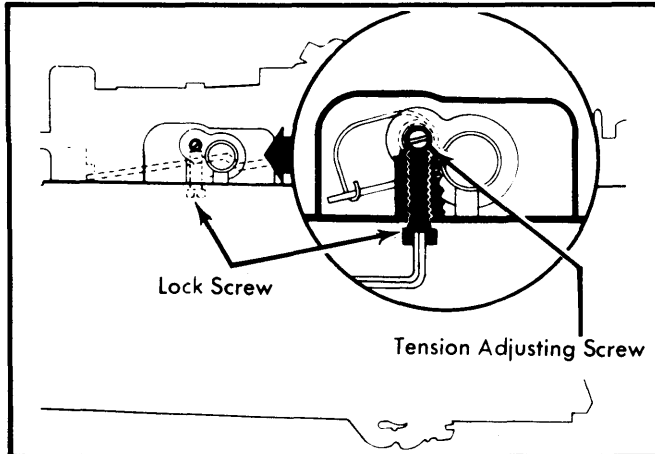

Fig. 9 Adjusting Air Valve Spring
2) Turn tension adjusting screw clockwise until air valve just closes. Then turn adjusting screw clockwise specified number of turns. See Fig. 9.